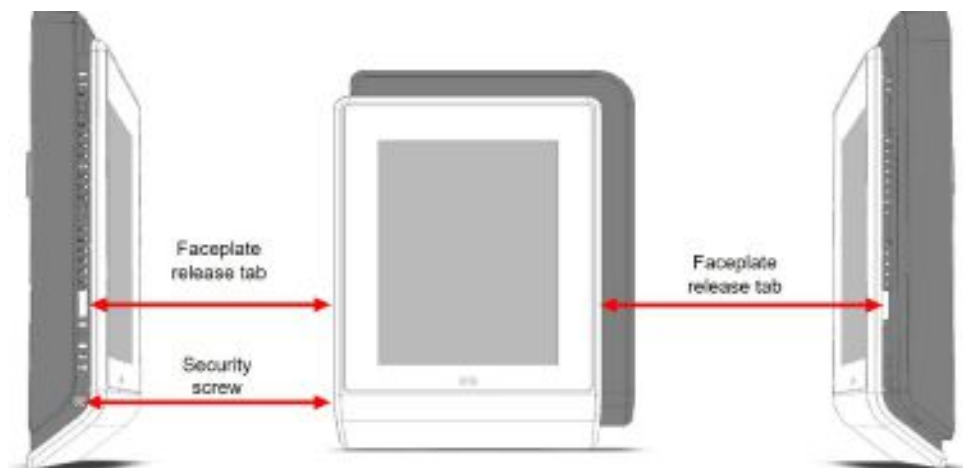

Figure 2 - Security Screw and Faceplate Tab Locations
- b. Using an appropriately sized tool, press in the two (2) release tabs on the sides of the device and pull the front cover out from the bottom. See Figure 2 for security screw and release tab locations.